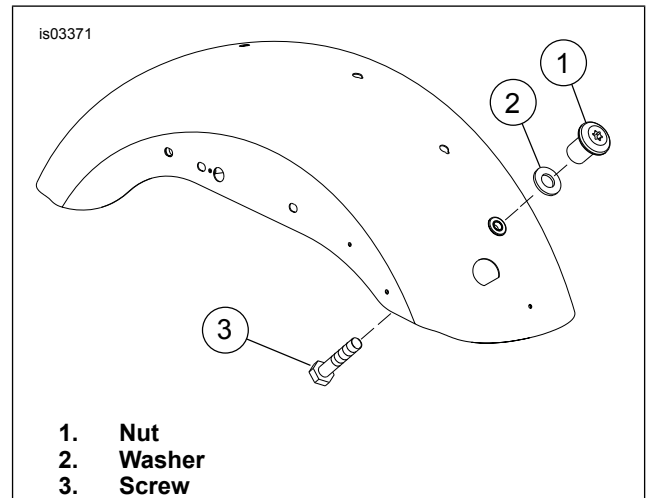

Figure 1. Front Fender Hole Hardware (2006 Fender Shown)
2. See Figure 1. Remove and discard seat post washer (2) and screw (3) from the front fender hole.
2. See Figure 1. Remove and discard nut (1), washer (2), and screw (3) from the front fender hole.